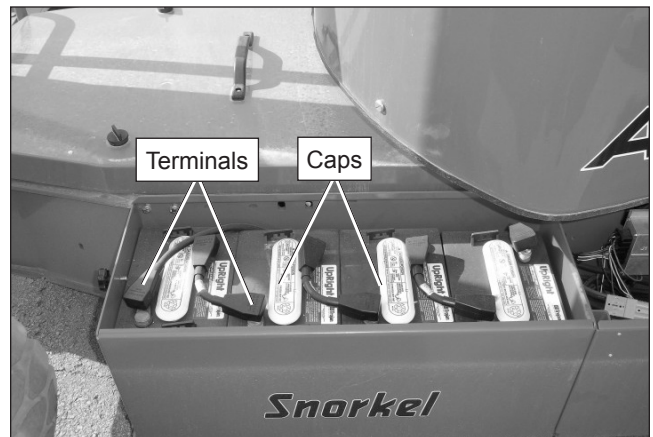

Figure 8.2 – Battery Tray
The batteries to power the machine are located in trays on each side of the aerial platform, refer to Figure 8.2.
1. Remove the caps from each battery (refer to Figure 8.2).
1. Check the top of each battery, the terminals, and cable ends. They should be clean and free of corrosion (refer to Figure 8.2).